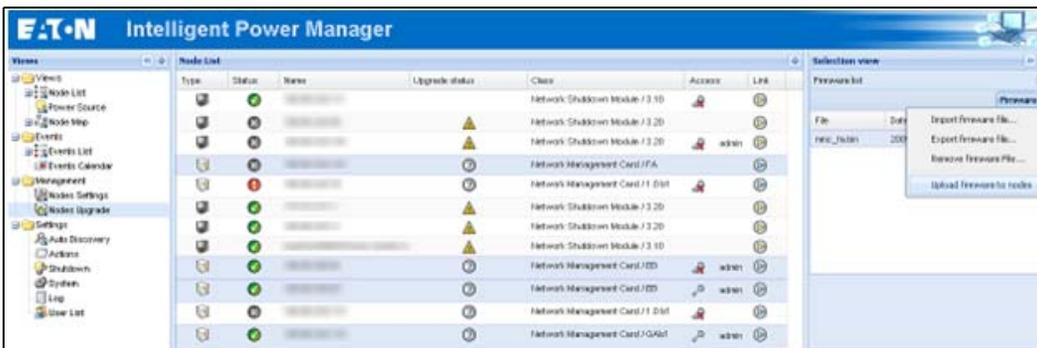

Figure 81. Management / Nodes Upgrade View 1
2. Select the cards on the Node List page (see Figure 81).